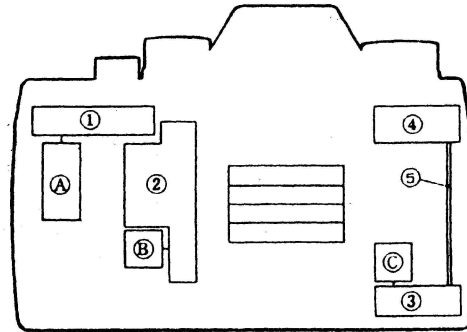

Fig.1 Layout of Units
The main driving units and their layout are as shown in Fig.1. ① is the Film Winding Mechanism, ② the Quick Return Mechanism and ③ and ④ the Film Rewind Mechanism. These units are provided with their own motors which are designed to give appropriate torques, respectively.